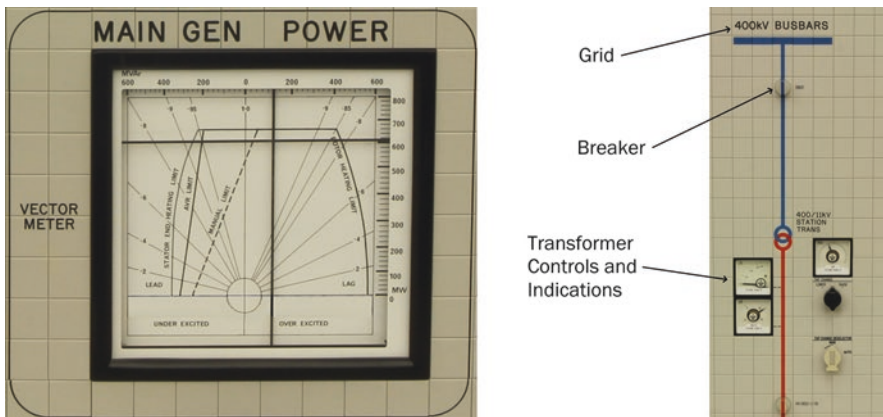

Fig. 11.5 Electrical indications and controls
This book concentrates on driving your reactor, but as you've seen, there's a lot to do on your turbine as well. Figure 11.5 shows you one of the indicators that is (as far as I know) unique to turbine-generators—a vector meter. The vertical axis shows the turbine output in Megawatts (MW). The horizontal axis is more complicated to explain as it shows something the electrical engineers describe as reactive power, measured in Mega-Volts-Amps-Reactive (MVARs). The people who run the grid need to ensure that reactive power is balanced across the system in the same way that they balance the supply and demand measured in MW. From your perspective you can increase or decrease reactive power by changing the amount of excitation on your turbine's main generator (but only when grid control asks you to!).
The right-hand side of Fig. 11.5 shows part of an electrical mimic—in this case, one of the connections between your power station and the electrical grid. The high voltage grid in the UK operates at 400,000 volts (400 kV), so you have transformers to step this down to something more usable at your power station. In this example, a 'Station Transformer' steps the 400 kV down to 11 kV. You'll also hear people talking about 'Generator Transformers' (step-up) and 'Unit Transformers' (step-down), both usually associated with your turbine-generator.